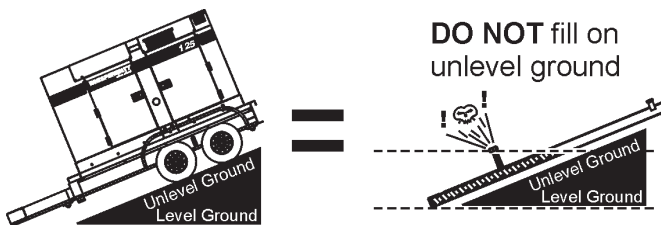

Figure 29. Only Fill on Level Ground
1. **Level Tanks** — Make sure fuel cells are level with the ground. Failure to do so will cause fuel to spill from the tank before reaching full capacity (Figure 29).